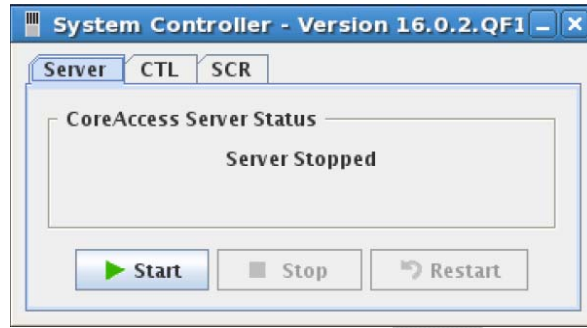

Figure 12 – System Controller Screen
4. A System Controller window will appear as shown in Figure 12 below. From the Server tab, press the “Start” button. Upon successful Server start-up operation, the iCore Server status will indicate “Server Operational” and a green Server icon  will appear in the upper panel of the desktop.